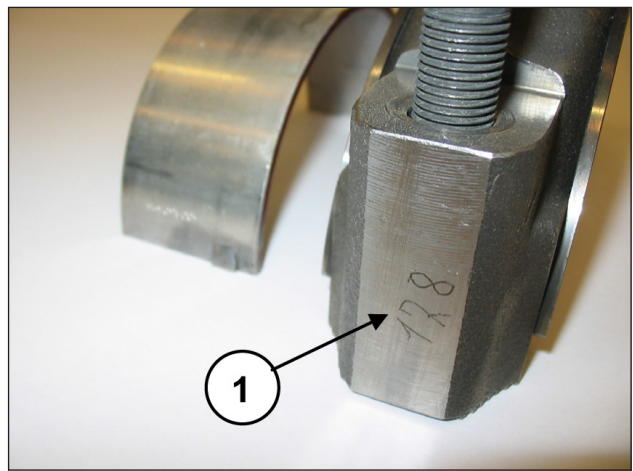

Fig. 19
To avoid possible errors, caps and half supports have been numbered on one side (pos. ①, Fig. 19).